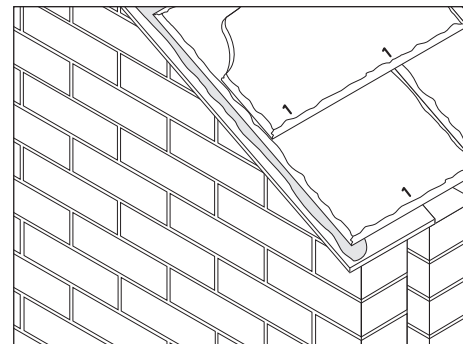

Fig. 17 – Bedded verge on brickwork with fibre cement undercloak
- 3 Mortar the edge of the verge slates flush with the undercloak on a bed of mortar. Neatly point to form a weathered profile giving a 5mm overhang of slates over the mortar. Make sure that the mortar is not displaced or cracked when nail-fixing the roof slates (Fig. 17).